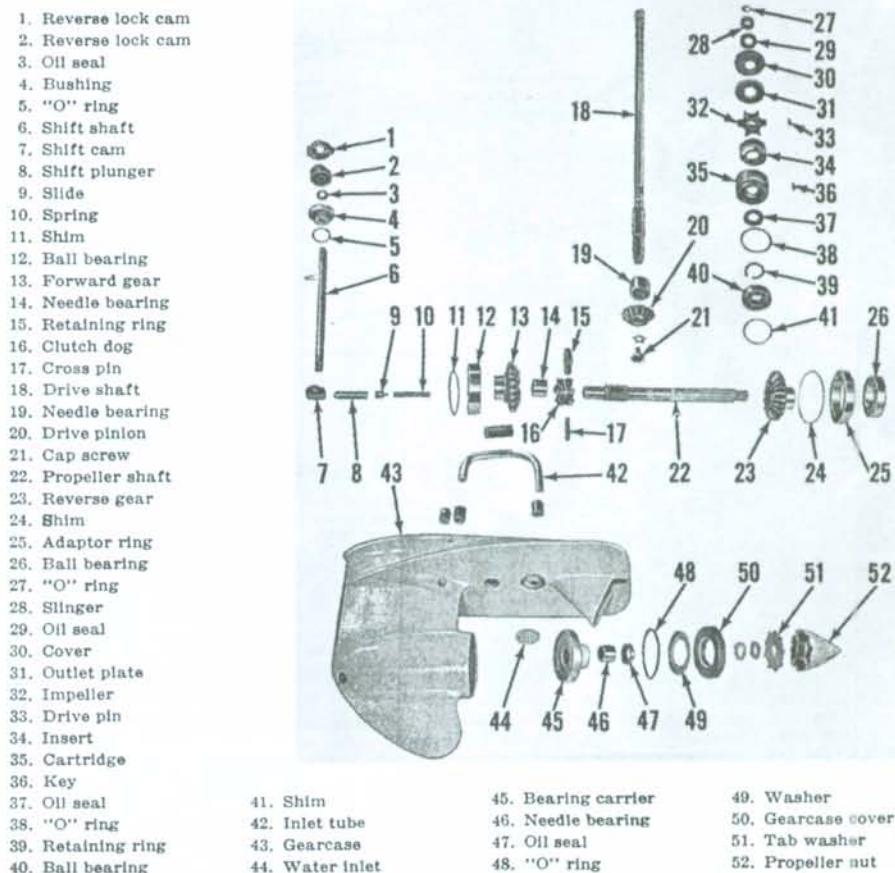
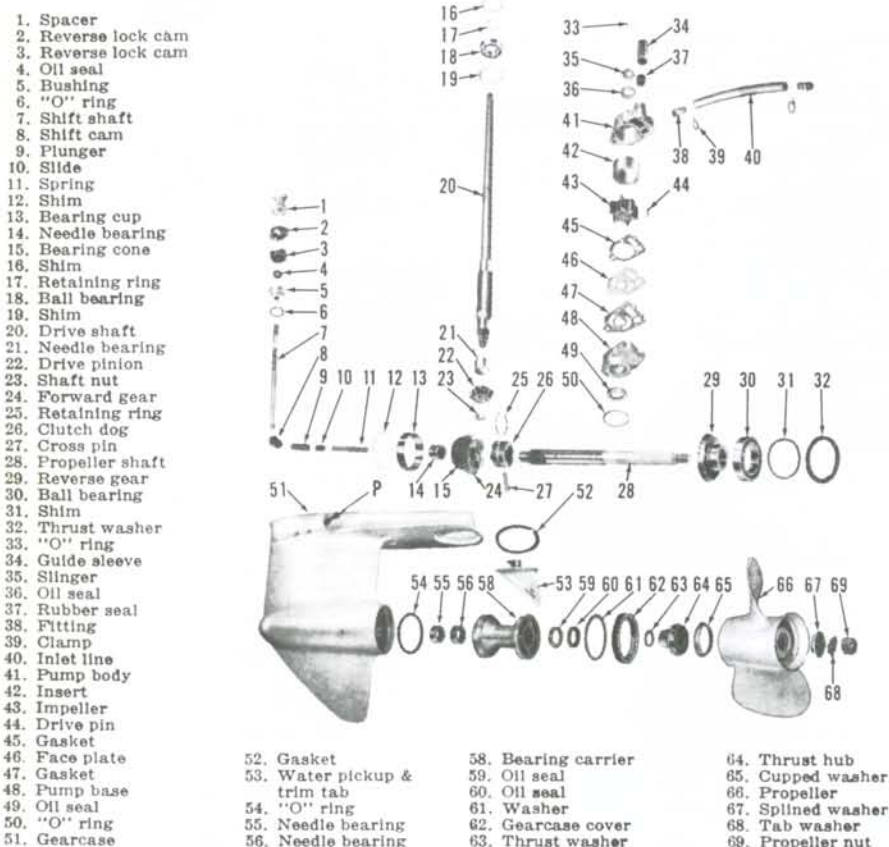

Fig. M7-29—Exploded view of gearcase assembly used on Four Cylinder models.
Fig. M7-30—Exploded view of lower unit gearcase and associated parts used on six cylinder, full gear shift models.
Gear Shift Type: Measure and record the backlash in forward and reverse gears before disassembling the gearcase. To disassemble the gearcase after the propeller is removed, clamp the housing in a protected vise and remove the gearcase cover (50—Fig. M7-29 or 62—Fig. M7-30) with a suitable spanner wrench such as 91-22119 for four cylinder models; or 91-30291A1 for six cylinder models. Grasp the propeller shaft in the vise and remove shaft and bearings by tapping housing off with a soft mallet. Forward gear (13—Fig. M7-29 or 24—Fig. M7-30) will remain in housing. On four cylinder models, remove the adapter ring (25—Fig. M7-29) and save the shims (24). Shims control the backlash of reverse gear (23).
To disassemble the drive shaft, the water pump must first be removed. On four cylinder models, remove the water pump cover (30—Fig. M7-29) using Mercury tool 91-22119 or a suitable spanner wrench. Lift off the outlet plate (31); then remove impeller (32) by prying it out with two screwdrivers. Remove the impeller drive pin (33). Removal of the water pump cartridge (35) requires the use of Mercury Cartridge Removal Tool (91-22118A1) or equivalent, to pull the cartridge.
To remove the drive shaft, remove the retaining screw (21—Fig. M7-29) or nut (23—Fig. M7-30). Clamp the drive shaft in a protected vise and tap the housing downward with a soft mallet. Remove and save the shim pack (41—Fig. M7-29 or 19—Fig. M7-30) located under the drive shaft ball bearing. These shims control the mesh position of drive pinion. On six cylinder motors, shims (19—Fig. M7-30) are identical to shims (16) above the bearing which control shaft end play. The two shim packs should not be mixed.
The forward gear (24—Fig. M7-30) on six cylinder models can be removed after drive shaft and drive pinion have been removed. Forward gear (13—Fig. M7-29) on four cylinder models can usually be removed after drive shaft is out by jarring open end of gearcase on a wooden block.
If any of the major components are renewed, or if incorrect before disassembly, the backlash must be checked and adjusted. On four cylinder models install forward gear (13—Fig. M7-29) and bearing (12) using the same thickness shims (11) as were removed. Temporarily install drive shaft (18) and bearing (40) using the removed shim pack (41). Install pinion (20) and retaining screw (21); then tighten screw. Backlash should be 0.003-0.005 and ends of teeth on gear (13) and pinion (20) should be even and fully meshed. Adjust backlash by disassembling; then adding or removing shims (11). If mesh position was incorrect, add or remove shims (41). Shims are available in thicknesses of 0.002, 0.003, 0.005 and 0.010.
On six cylinder models make a trial assembly by installing bearing cup (13—Fig. M7-30) and shims (12); then forward gear (24) and bearing cone (15). Install drive shaft (20) and bearing (18) using the removed shim pack (19); then install pinion (22) and nut (23). Tighten the driveshaft nut. Insert the stripped propeller shaft (28)
When adjustment is complete, reassemble by reversing the disassembly; then measure backlash of the reverse gear. Adjust to 0.003-0.005 by means of shims (24—Fig. M7-29 or 31—Fig. M7-30). NOTE: Adding shims in four cylinder models will INCREASE backlash.
On six cylinder units, add sufficient quantity and thickness of shims (16—Fig. M7-30) to bring the assembled height flush with seating surface of water pump base (48). This measurement can best be determined by installing additional shims, then measuring the resulting gap with a feeler gage.